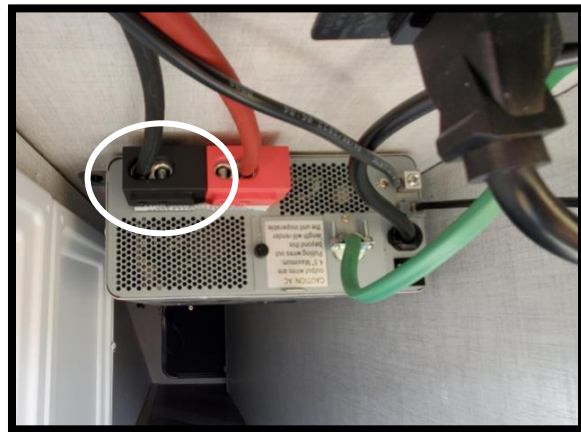

Figure 1: Missing second grounding wire, requires repair
2. Inspect the inverter: if only one cable is connected to the black "DC Negative Input" shown in figure 1, an additional ground is required.